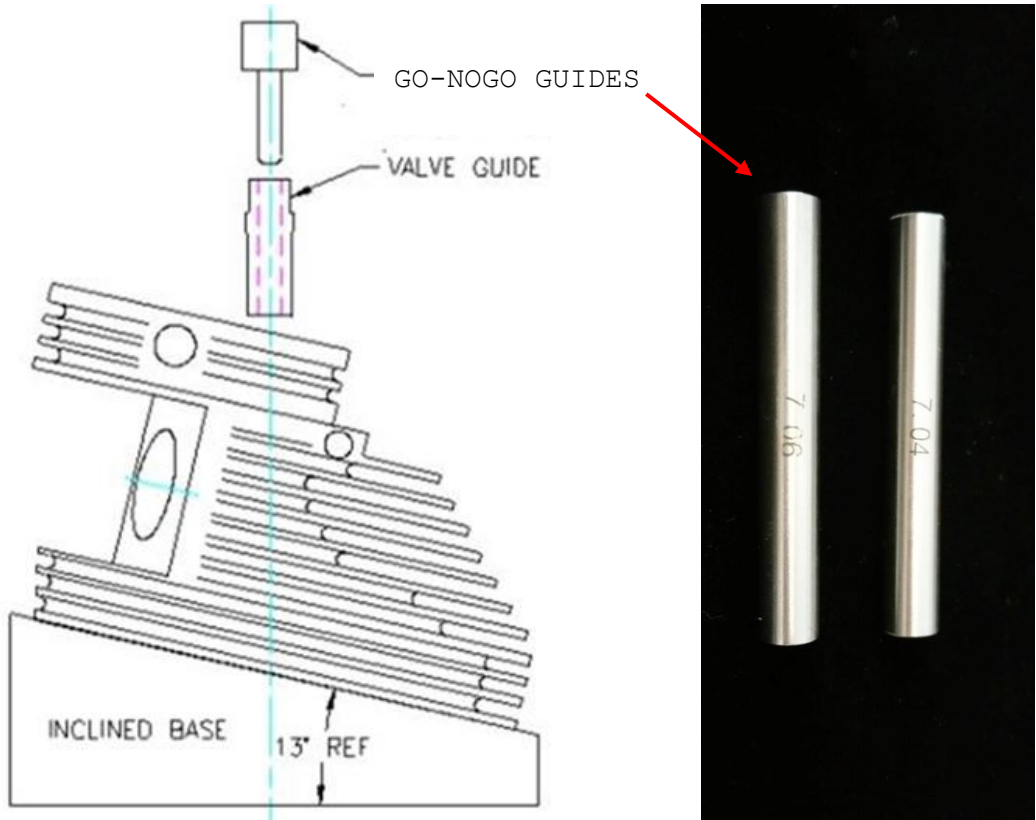

Figure 92 – Valve Guides
- Ream the valve guide holes out carefully if required until a 0.03 - 0.05mm interference fit is obtained and then heat the head again while cooling the guides in a plastic bag in the freezer for at least an hour. Then, working quickly, drive each guide home using a suitable tool with the head supported on an inclined base, all as shown in Figure 92.